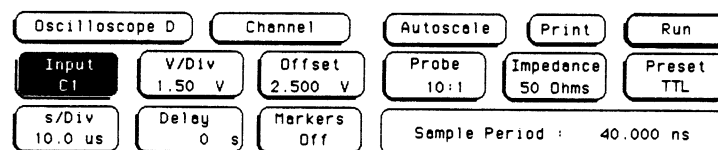

Figure 4-6. Channel Selection
- Touch channel label. See figure 4-6.